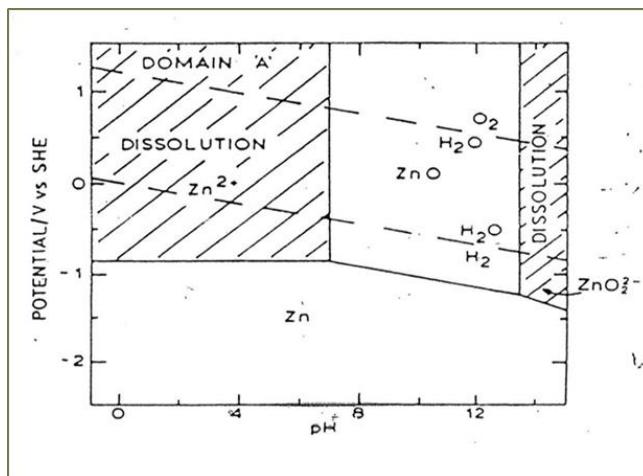

Figure 1:  $E_h$ -pH diagram for Zn-H2O system for a metal ion activity of  $10^{-3}$  mol/kg at 25°C
- (b). Figure 1 shows an  $E_h$ -pH diagram for Zn-H2O system for a metal ion activity of  $10^{-3}$  mol/kg at 25°C